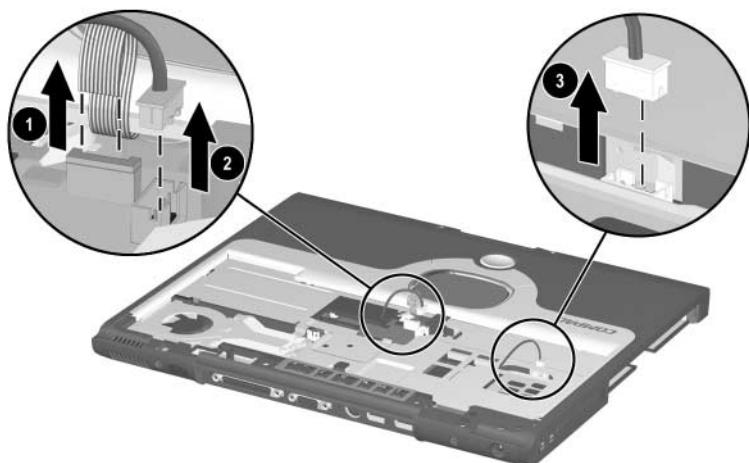

Figure 5-22. Disconnecting the Drive Activity Light/Battery Power Light, TouchPad, and Speaker Cables
6. Disconnect the drive activity light and battery power light cable from the system board ① (Figure 5-22).
7. Release the ZIF connector ② to which the TouchPad cable is connected and disconnect the TouchPad cable ③ from the system board.
8. Disconnect the speaker cable ④ from the system board.